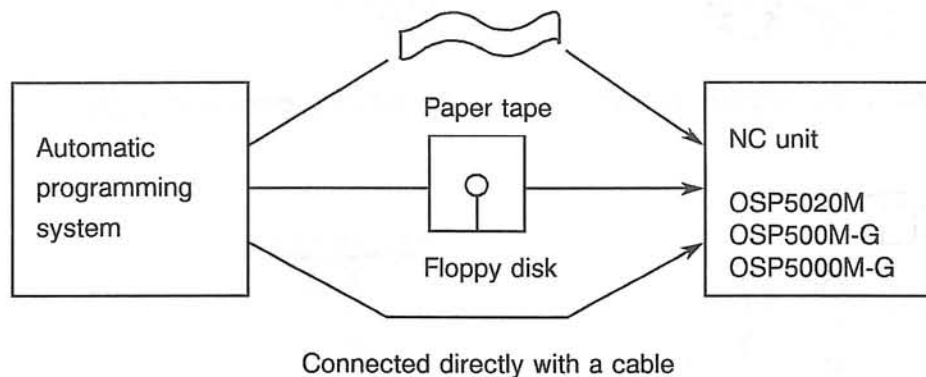

Fig. 2-1 NC Program I/O Method
- (1) The following are typical methods for loading an NC program created, for example, by an off-line automatic programming system to the NC system. (See Fig. 2-1)